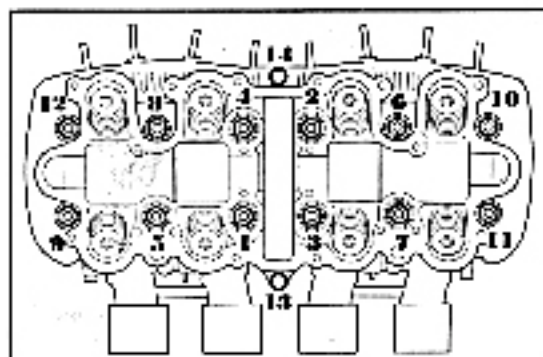

Fig. 83
② Cam chain tensioner mounting bolt
11. Unscrew twelve cylinder head mounting nuts and two 6mm flange bolts, and remove the head. Loosen the nuts uniformly in the reverse order of tightening shown in Fig. 83.
11. Tighten the twelve 8 mm nuts uniformly with the special tool (Tool No. 07078-32301) to a torque of **2.0~2.2 kg-m** (14.46~16.63 ft-lbs) in the sequence shown in Fig. 83.